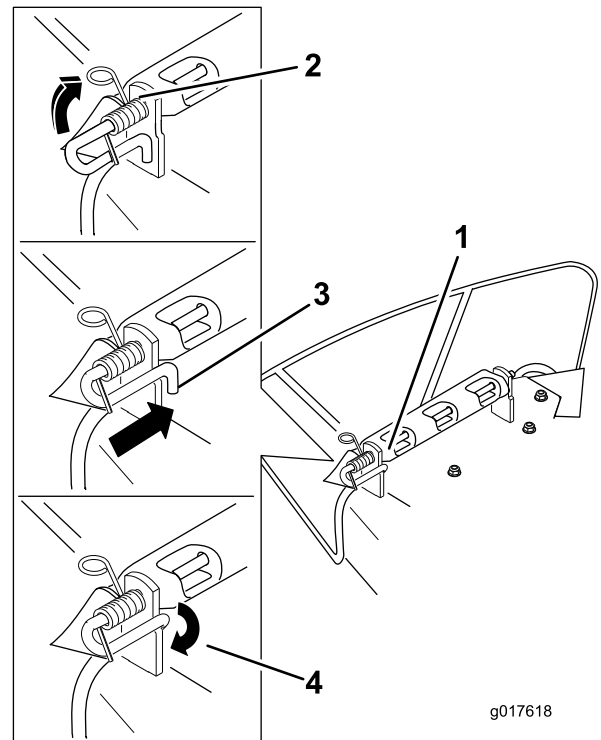

Figure 62
6. Lift the loop end of the spring and place it into the notch on the deflector bracket (Figure 62).
7. Secure the rod and spring assembly by twisting it so the short end of the rod is placed behind the front bracket welded to the deck (Figure 62).
3. Position the new discharge deflector with the bracket ends between the welded brackets on the deck as shown in Figure 62.